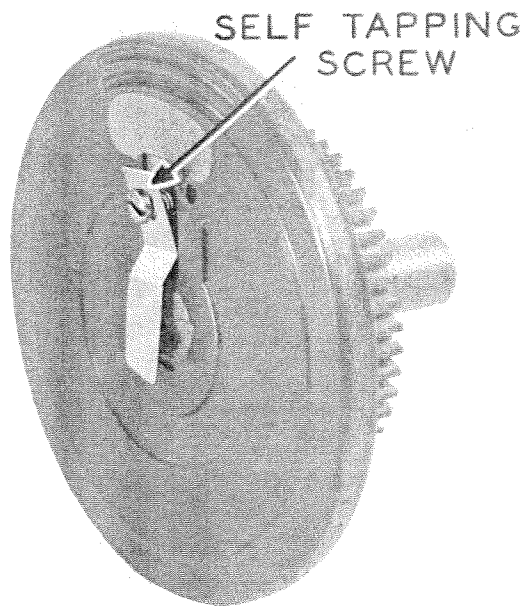

Fig. 19. Flat Spring with Screw
Should the flat spring on the face of the disc become worn or broken, it can be replaced by drilling a .098" dia. hole $\frac{1}{8}$ " deep, in the rivet with a No. 39 drill, and substituting No. 0140JM Spring and No. 0334JM Self Tapping Spring Screw, Figure 19.
3. Worn or broken spring on distributor disc, Figure 19.